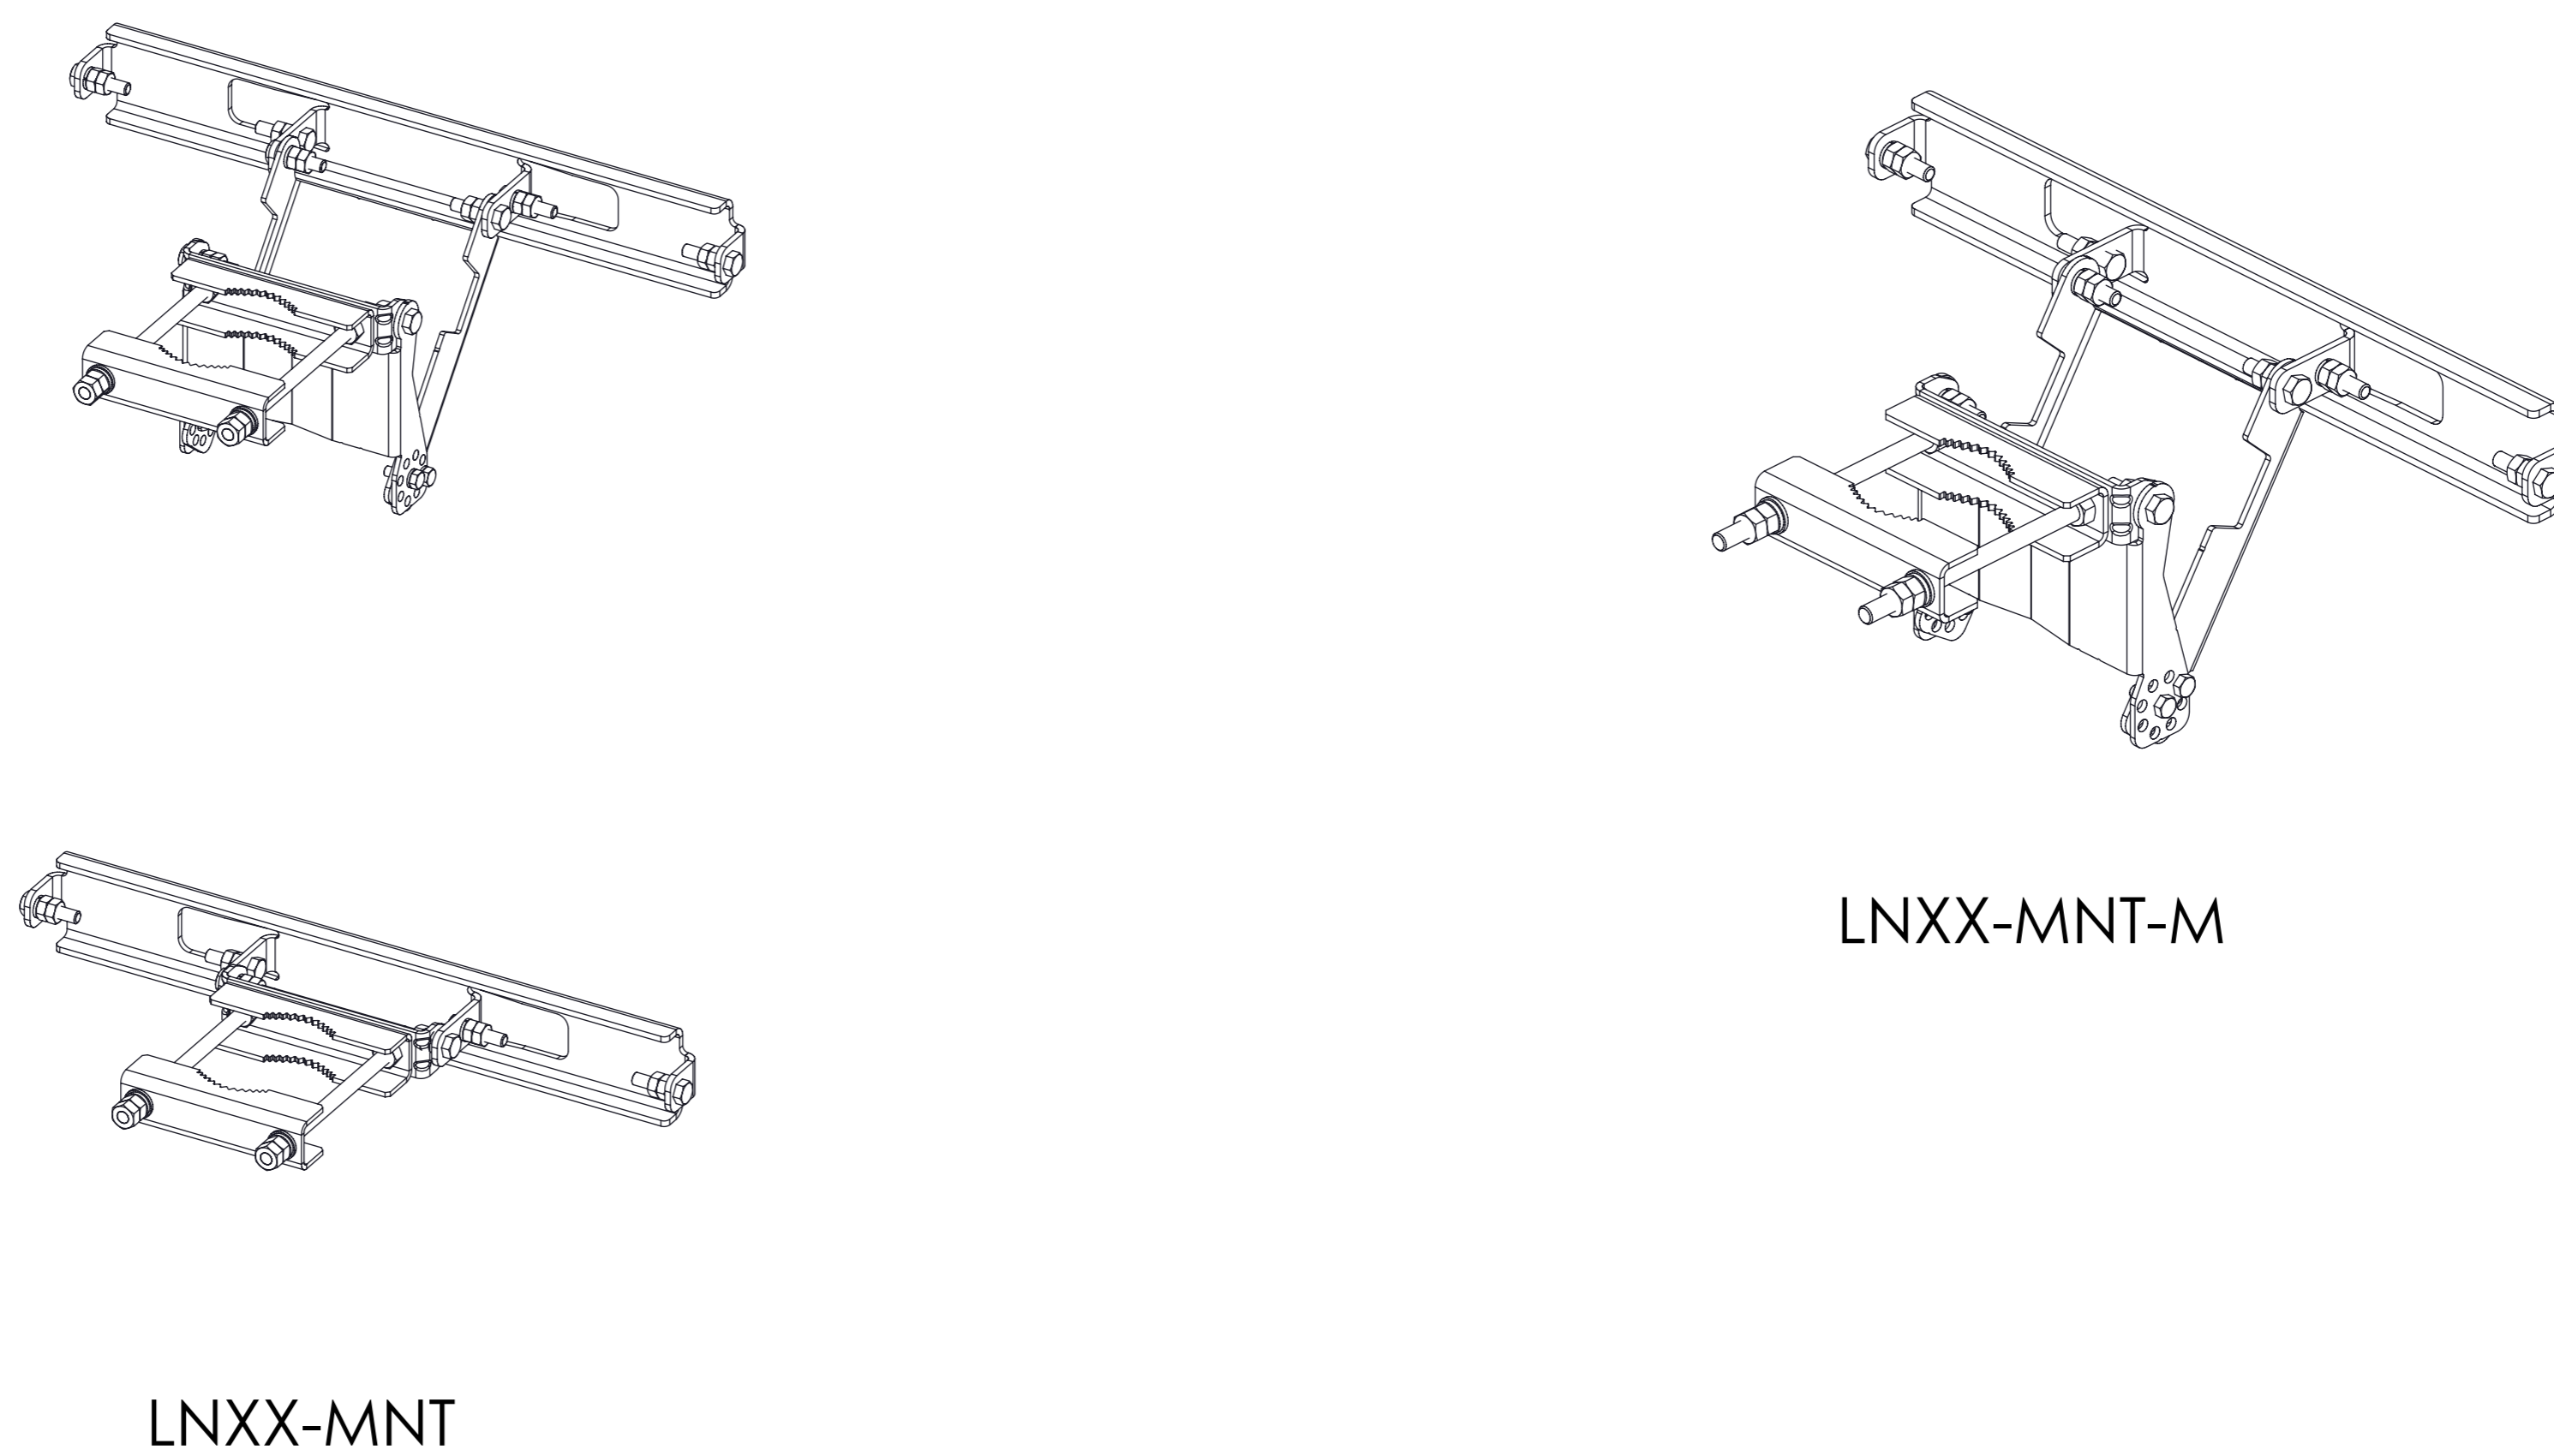

Figure 2. LNXX-MNT & LNXX-MNT-M kits.
- LNXX-MNT / LNXX-MNT-M kits are used to mount two antennas side-by-side. Kits' details as Figure 2.